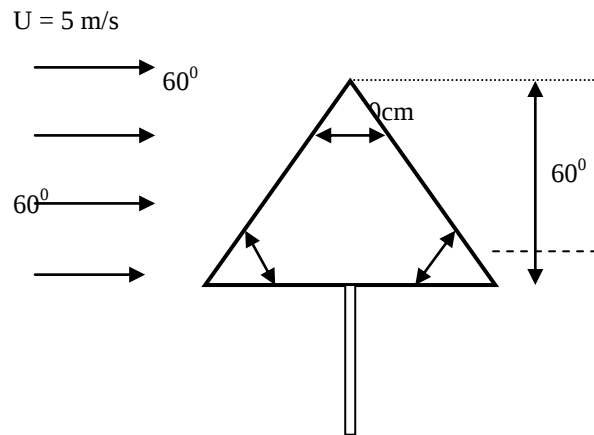

Figure S4.0
- An equilateral triangle traffic signboard shown in Figure S4.0. The wind was blowing at a velocity of 5 m/s parallel and horizontally through the surface of the signboard. If the density of air is 1.2 kg/m^3 and kinematic viscosity $1.5 \times 10^{-5} \text{ m}^2/\text{s}$, determine the wind drag.